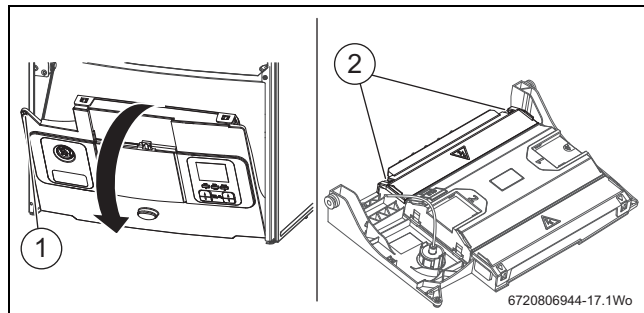

Fig. 38 Moving control panel into the service position
- ▶ Remove appliance casing to access control panel (→ section 5.3.1). Refer to figure 38.